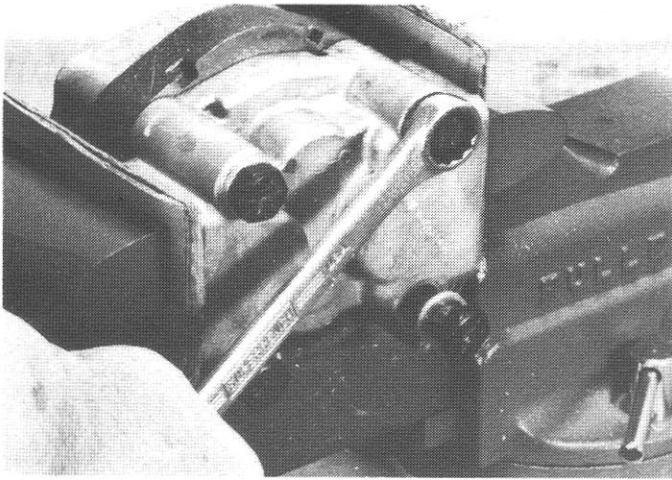

Fig. 5
5. Using 3/4 wrench, loosen and remove capscrews (14) and washers (13). (Fig. 5)